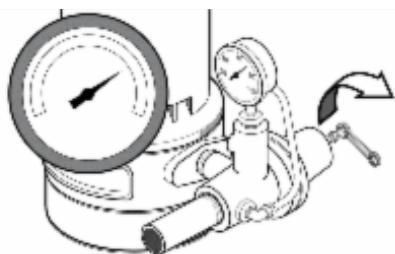
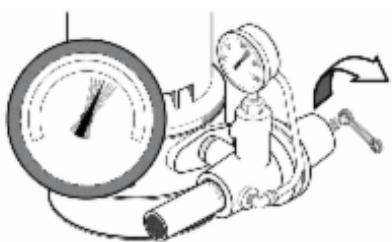
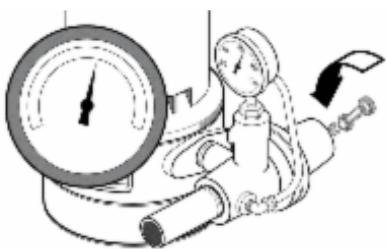

Figure 14A: Open Regulator Valve
Figure 14B: Watch for Pressure Gauge to Flutter
Figure 14C: Close Regulator Valve until Pressure Stabilizes
4. Once unit has primed and pressure stabilized, slowly open (turn counterclockwise - Figure 14A) regulator valve until pressure falters (pressure gauge needle flutters; pump may become noisy - see Figure 14B). At this point, close (turn clockwise) regulator valve slightly until pressure stabilizes. This setting provides maximum flow (Figure 14C).